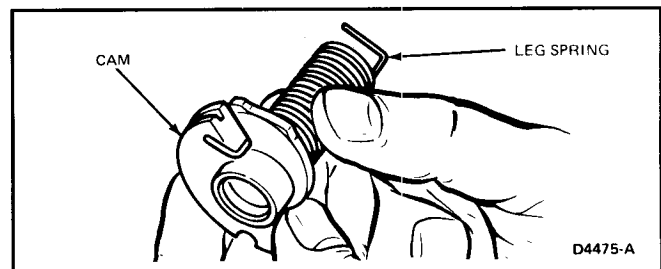

FIG. 19 Accelerator Cam Spring—Installation
5. Fit the leg spring into the cam (Fig. 19).
6. Install the cam and spring in the case, with the leg of the spring on the case support (Fig. 19).